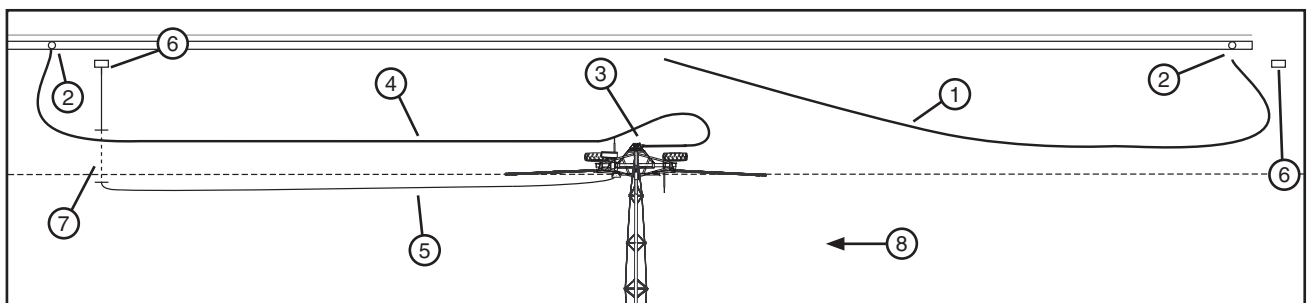

Figure 50-2 1. First Hose 4. Second Hose 7. Buried Power Cable Location
19. With second hose connected to shut off valve, position second hose, unlatch and disconnect first hose from swivel inlet. Positioning the hose to drain away from the cart path. See figure 50-2.
- (c) Position the electric cord as shown. When applicable, prevent interference between the electric cord and the hose by burying the electric cord in the ground as shown. Allowing for the hose to travel over the buried portion of the cord. See figure 50-2.